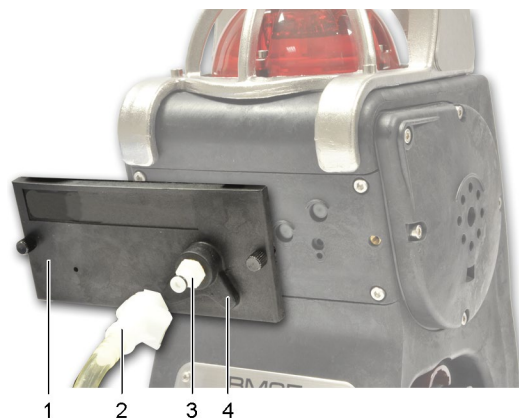

Figure 15: positioning the sensors cover (BM 25/25W equipped with an electric pump)
- The internal pump is powered by the gas monitor's battery and starts automatically when the sensors cover is applied (Figure 15: positioning the sensors cover (BM 25/25W equipped with an electric pump)ref. 1); this cover can be identified by its hump (ref. 4).
- Connect the sample line (ref. 2) to the gas inlet (ref. 3).